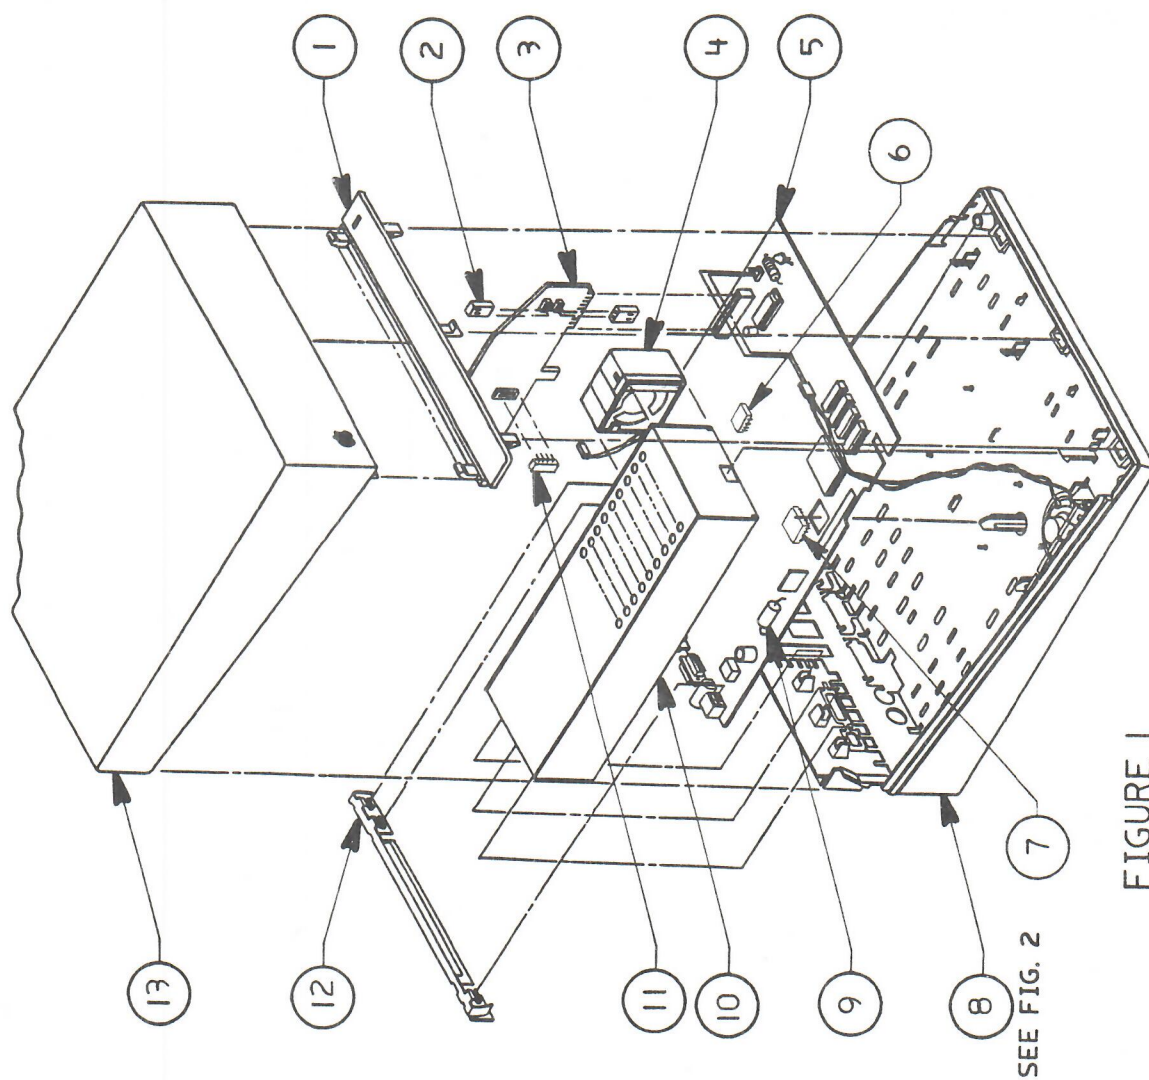

FIGURE 1
- 6.3 Main Assembly (Figure 1)
□ APPLE IIgs – MAIN ASSEMBLY (Figure 1)